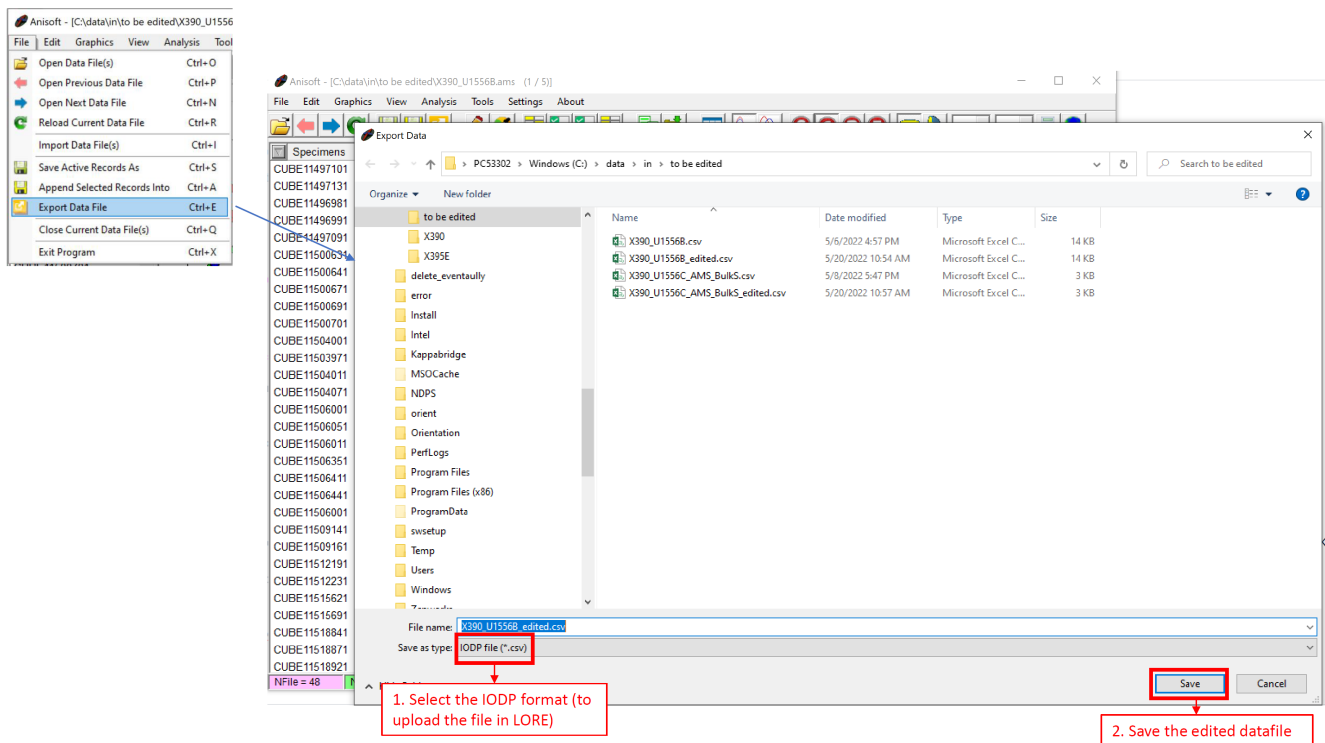

Figure 45: Export Data File window to save edited data with Anisoft5
4. Select **File>Export Data File** and export .csv file by selecting **IODP file (.csv)** format (Figure 45). Do not choose Comma-separated values text file (.csv) format.